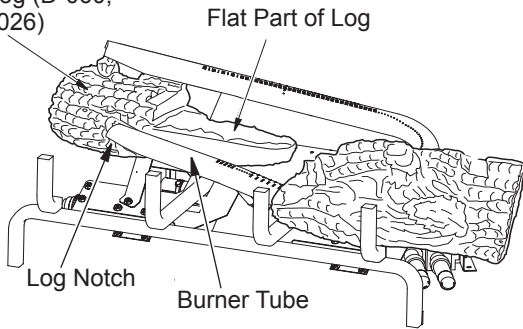

Figure 19 - Installing Back Left Log
2. Find the back left log (LMF24GTA/B or LMF24MOA/B models: D-060, LMF30GTA/B or LMF30MOA/B models: D-018, LMF36GTA/B or LMF36MOA/B models: D-026). See **Figures 19, 19A, and 19B**. **Figure 19A** shows how the log must fit against the end of the burner. **Figure 19B** shows how the notch in log fits against the vertical portion of the burner tube. Place this log on the base assembly by inserting it from the left side as shown in **Figure 19**. You will need to twist the log slightly to get it to fit against the burners properly. It will rest even with the back edge of the pan.